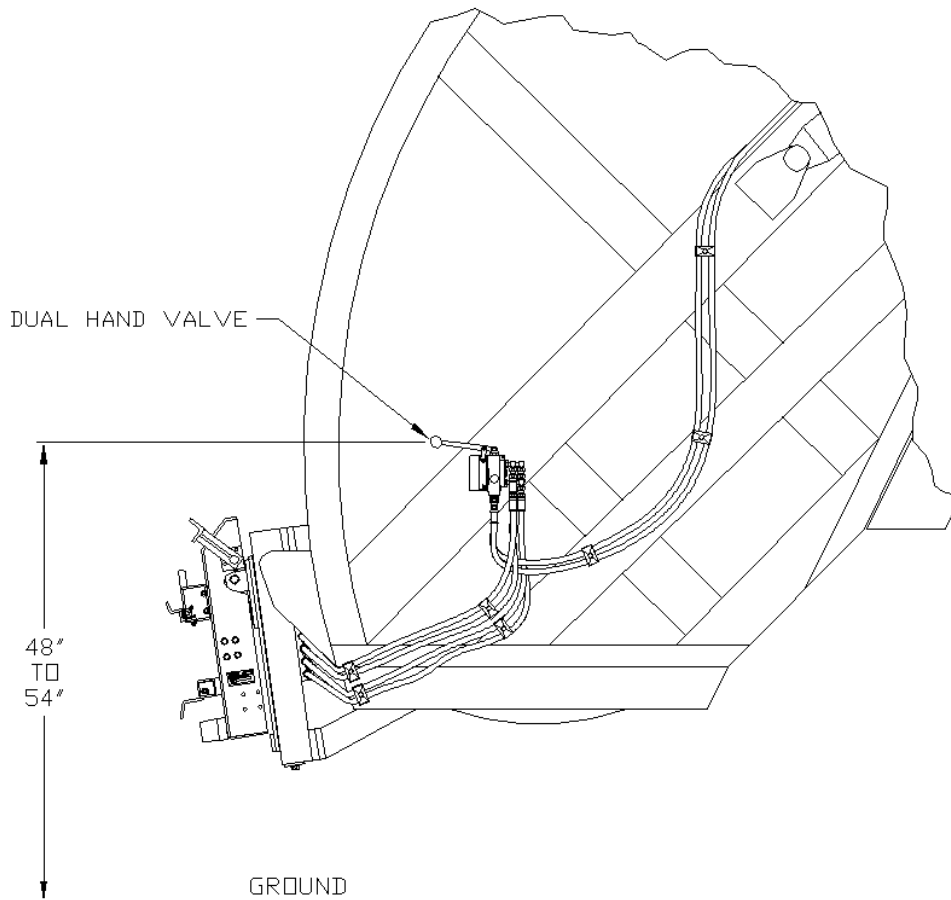

figure I-2
1. Choose and mark an acceptable location on the side of the truck to mount the dual hand valve assembly as shown in figure I-2.